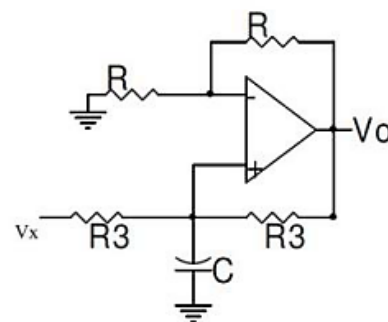

Fig. 2
- 5- For the circuit shown in Fig.2, show how can you use it to generate a staircase waveform. What's the step voltage assuming  $R=2K\Omega$ ,  $R_3= 6K\Omega$ ,  $C= 10 \mu F$ .